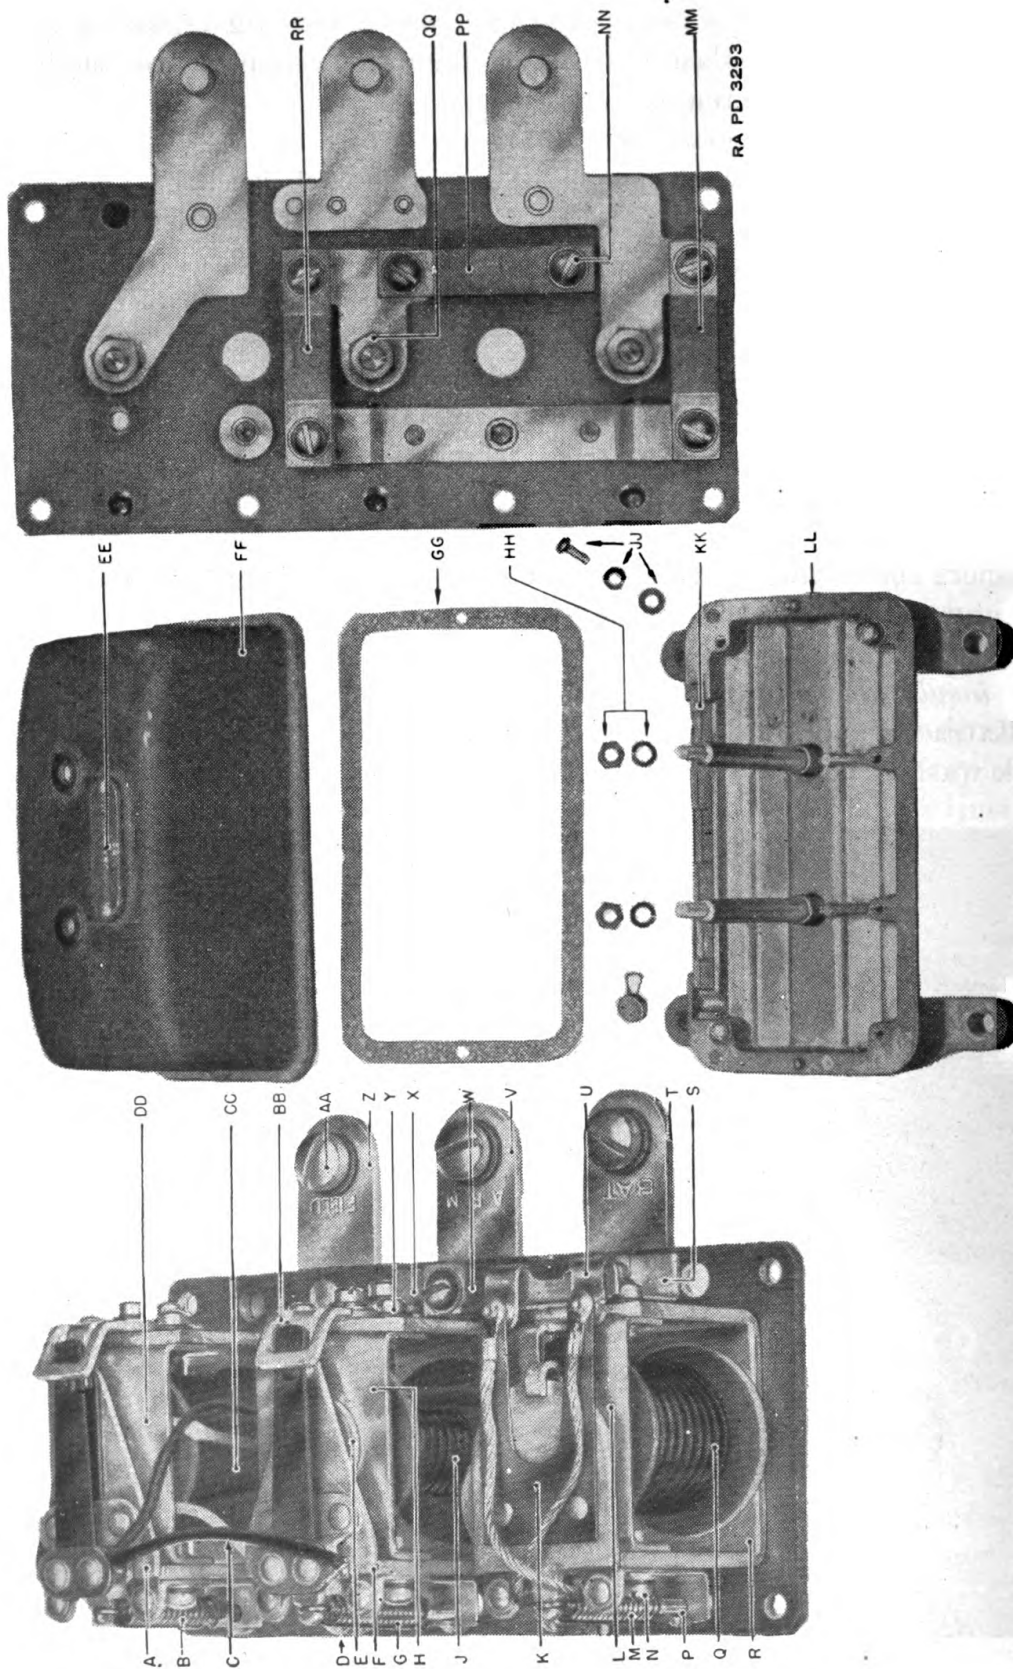

Figure 51.—Voltage regulator, exploded view.
e. Regulator disassembly (fig. 51).—Tools: